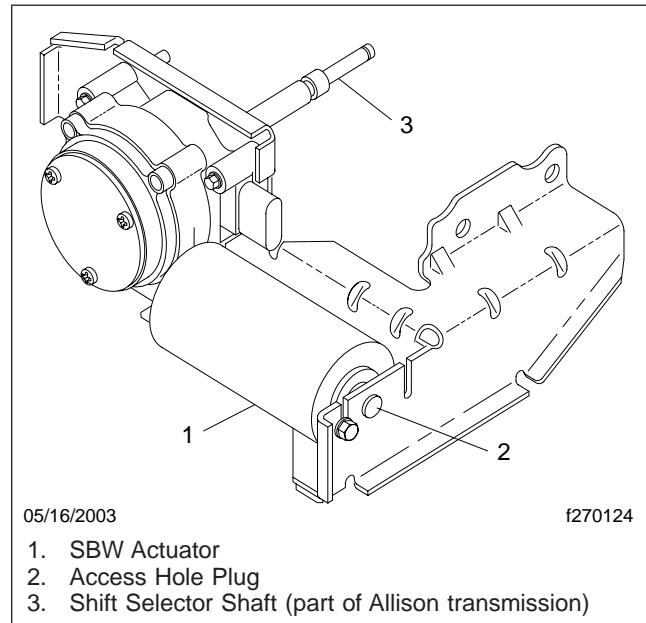

Fig. 14.1, SBW Actuator (at transmission)
5. Underneath the disabled vehicle, at the transmission, remove the access hole plug at the rear of the SBW actuator. See Fig. 14.1.
6. Insert a 3/16-inch allen wrench or hex key through the access hole into the rear of the actuator. Turn the allen wrench in a clockwise direction until the transmission comes out of the Park (P) position.